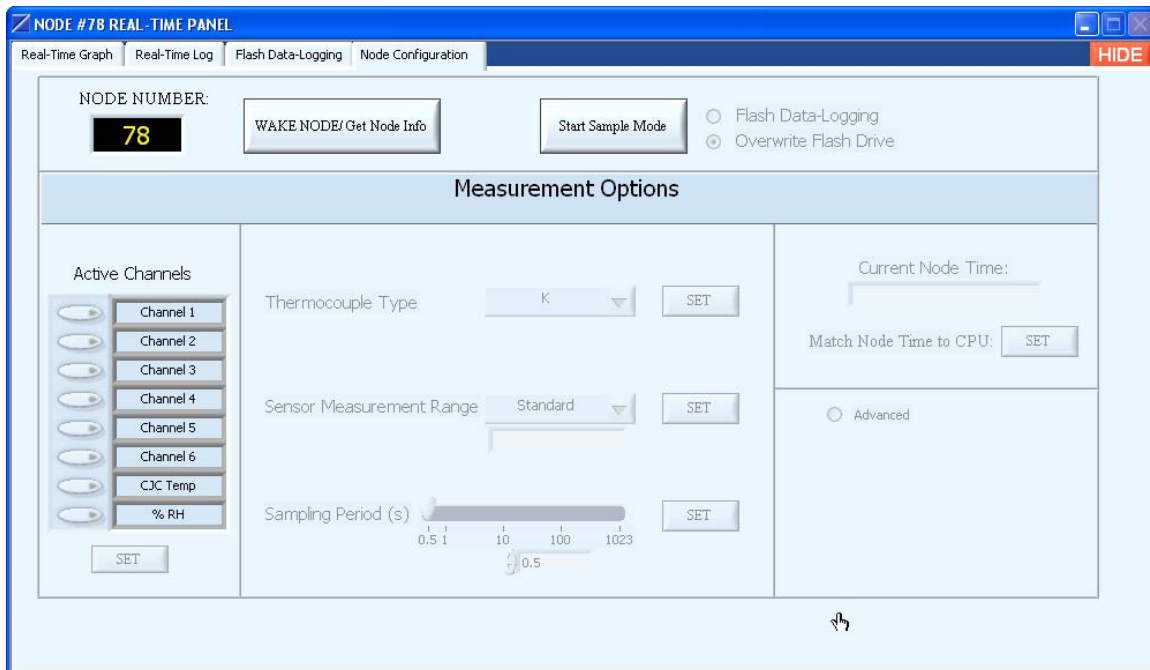

Figure 6
- Click the Node Configuration tab and the screen in Figure 6 will appear.